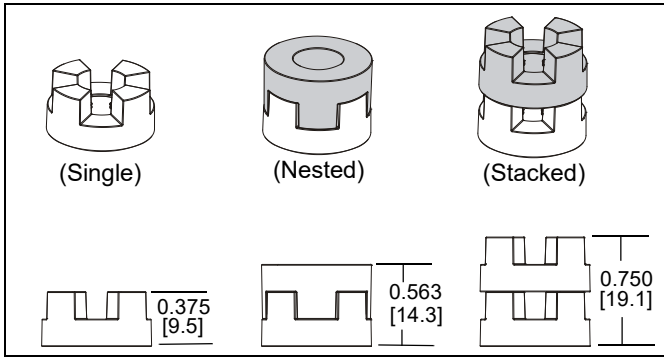

Figure 10
NOTE: The nesting spacers (G) may be used separately, or put two together in different configurations to create different size spacers. (See Figure 10)